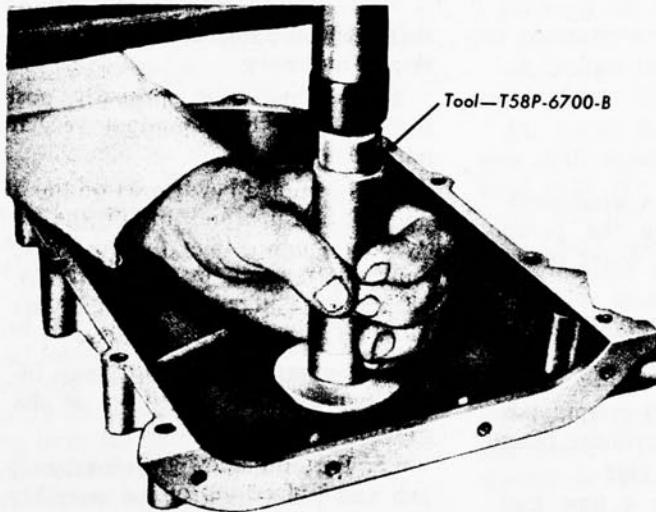

FIG. 43—Oil Seal Installation
2. Coat a new seal with grease, then install the seal (Fig. 43). Drive the seal in until it is fully seated in the recess. Check the seal after instal-